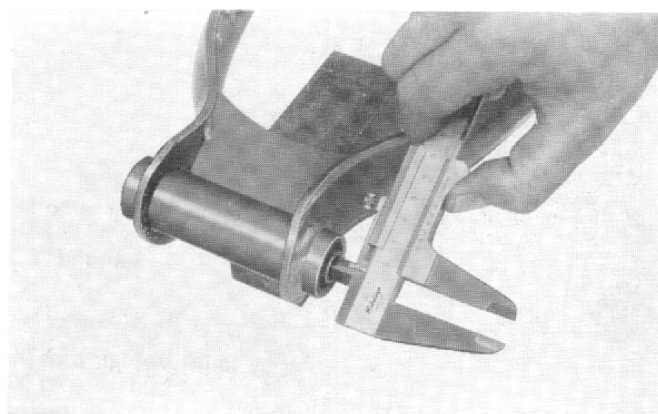

Fig. 96
- (1) Check the pivot rubber bushing for damage or aging and also for looseness in the fork. Replace defective bushing if required. (Fig. 96)